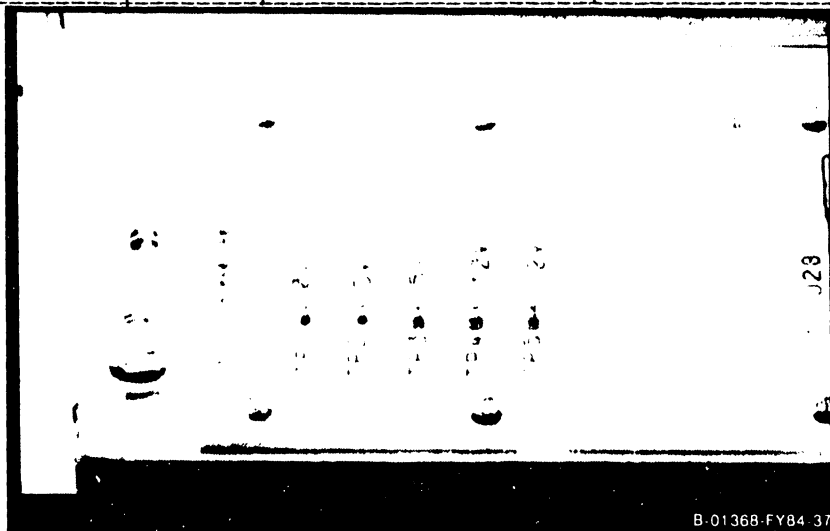

Figure 5-28. Motherboard Voltage Test Points
4. Using a digital voltmeter, check the voltages at the Motherboard test points (figure 5-28).